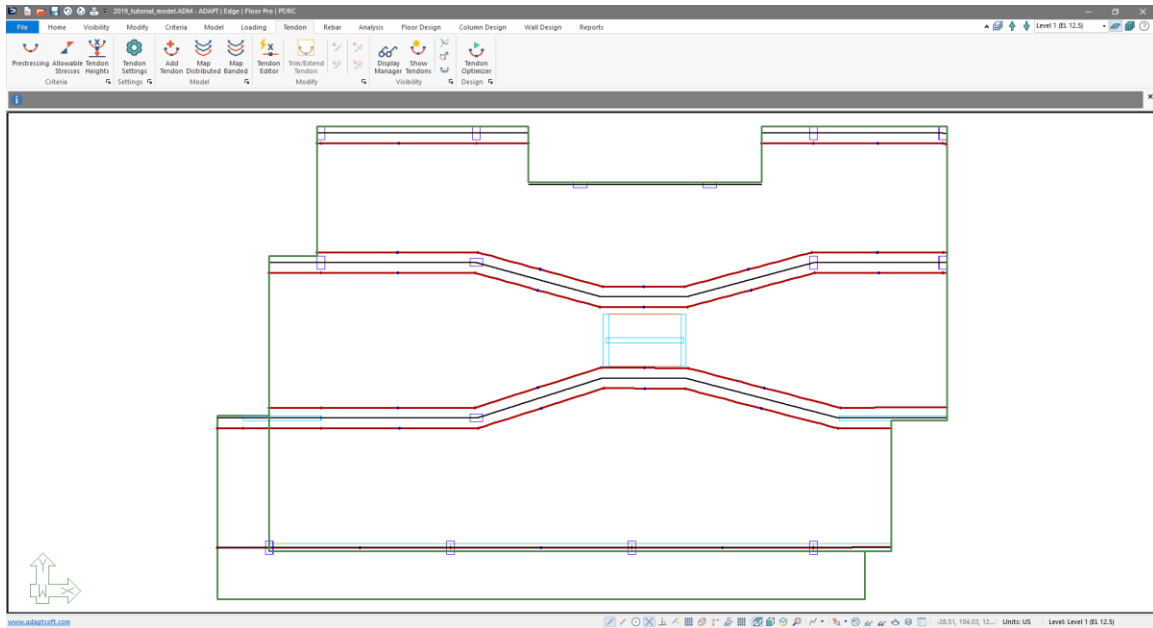

Figure 9-45
- At this point the users screen should be similar to that of **FIGURE 9-45**.